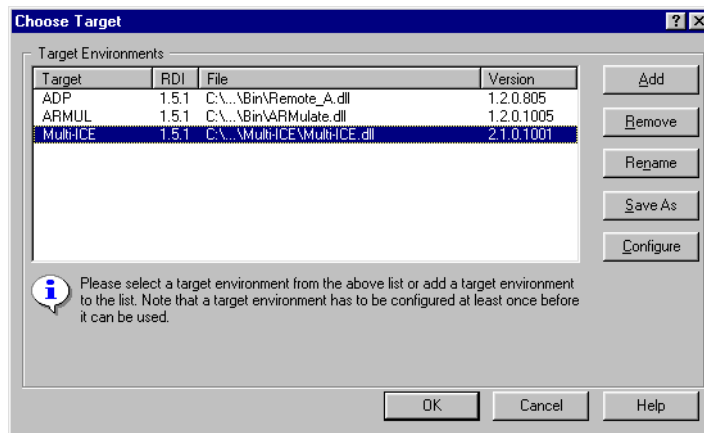

Figure B-12 Debugger Configuration dialog box
2. Select **Options** → **Configure Target** in AXD. This displays the target configuration dialog box shown in Figure B-12 on page B-18.
The list of targets and the version numbers shown in Target Environments might vary from those shown in Figure B-12 on page B-18.